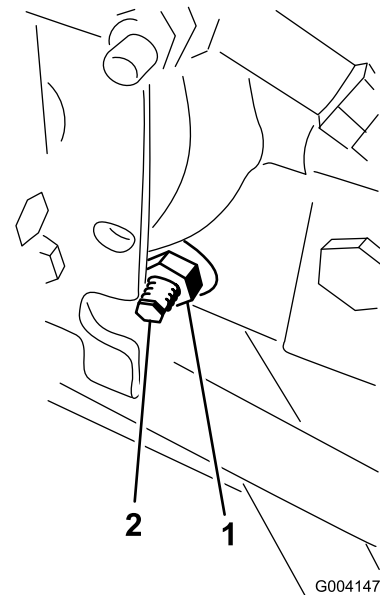

Figure 59
3. On the right side of the hydrostat, loosen the locknut on the traction adjustment cam (Figure 59).